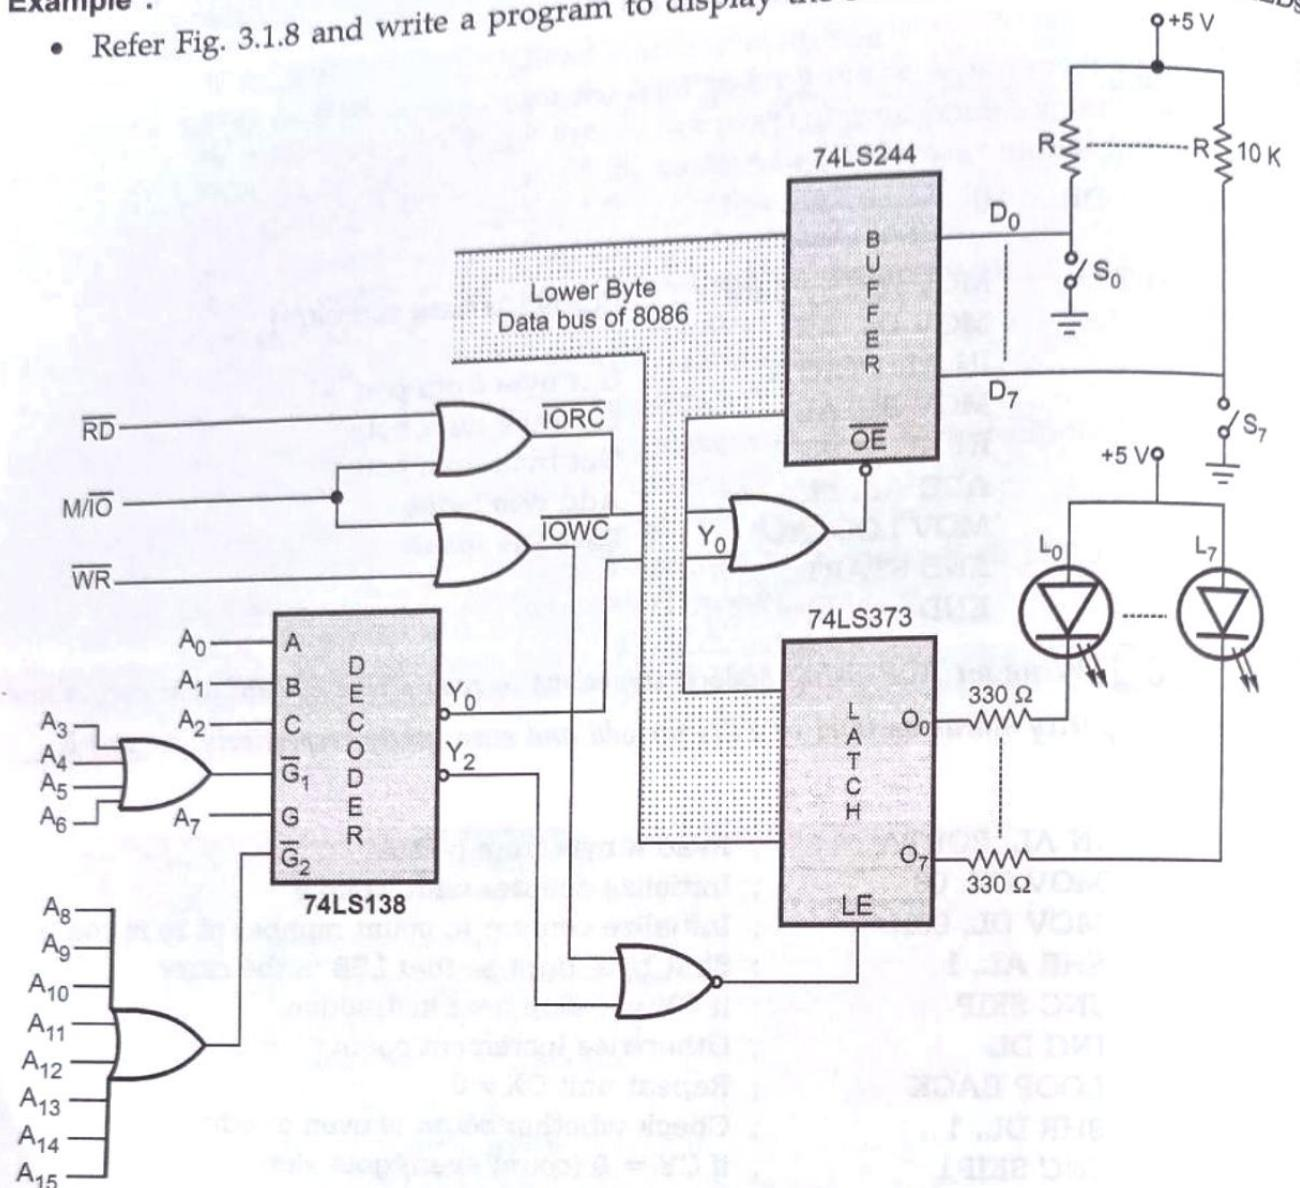

Fig. 3.1.8 Interfacing of 8-bit input port (buffer) and 8-bit output port (latch)
- Fig. 3.1.8 shows the interfacing of 8-bit input port (buffer) and 8-bit output port (latch) having 16-bit address. The address of input port is 0080H and address of output port is 0082H.
- Refer Fig. 3.1.8 and write a program to display the status of switches on the LEDs.